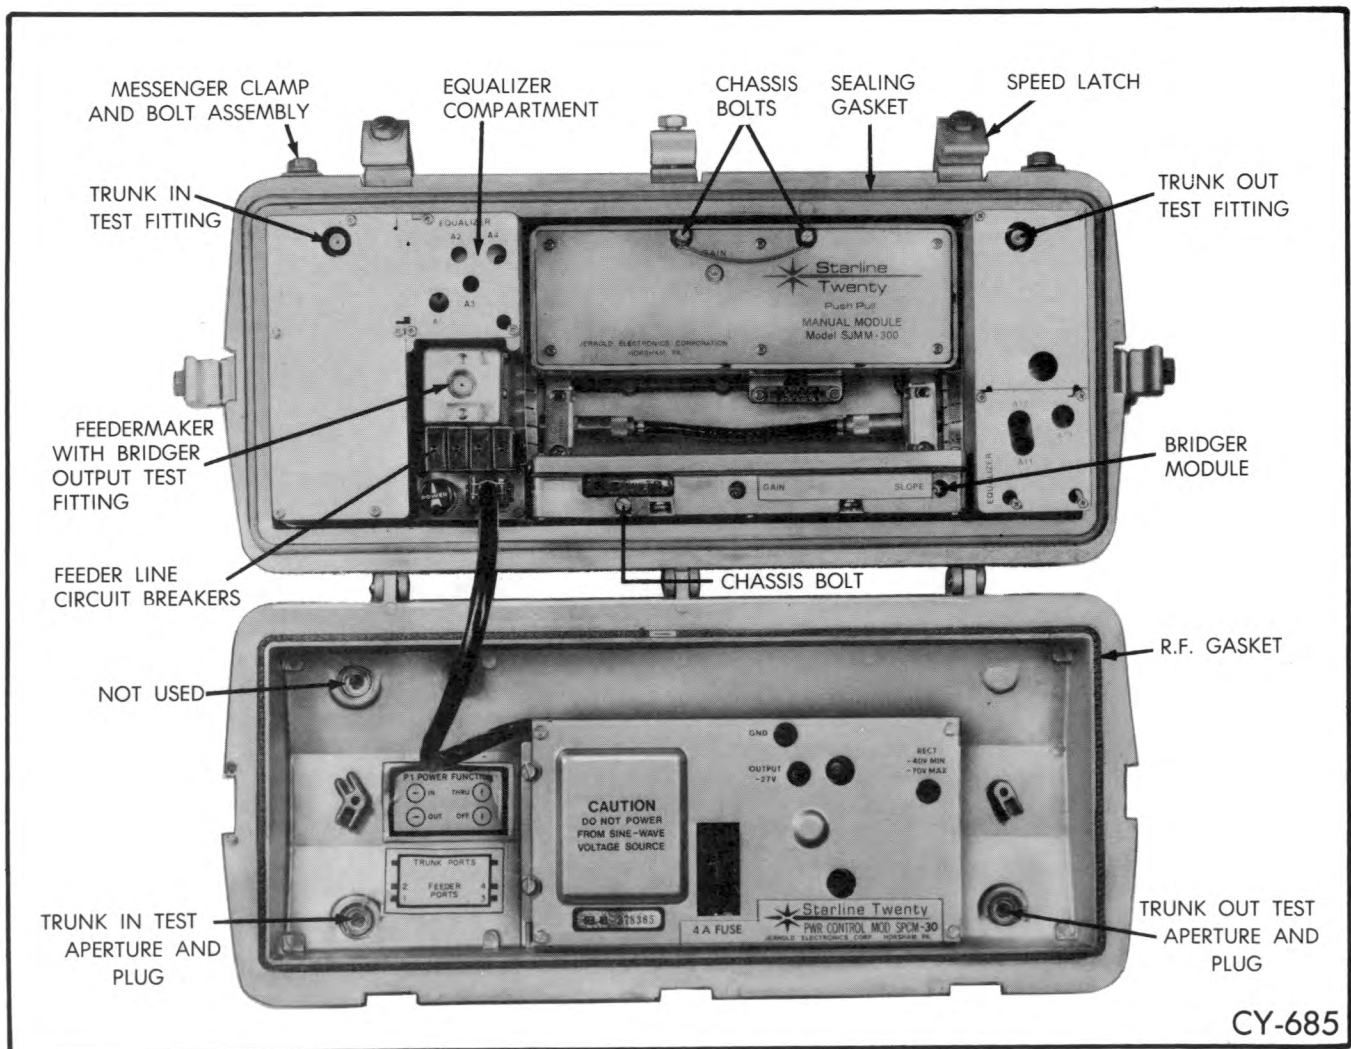

Fig. 2—Typical Trunk Station with SPCM-* Power Pack.
8. Disconnect the power pack from the initial test set-up and connect it into the set-up diagrammed in Fig. 2.